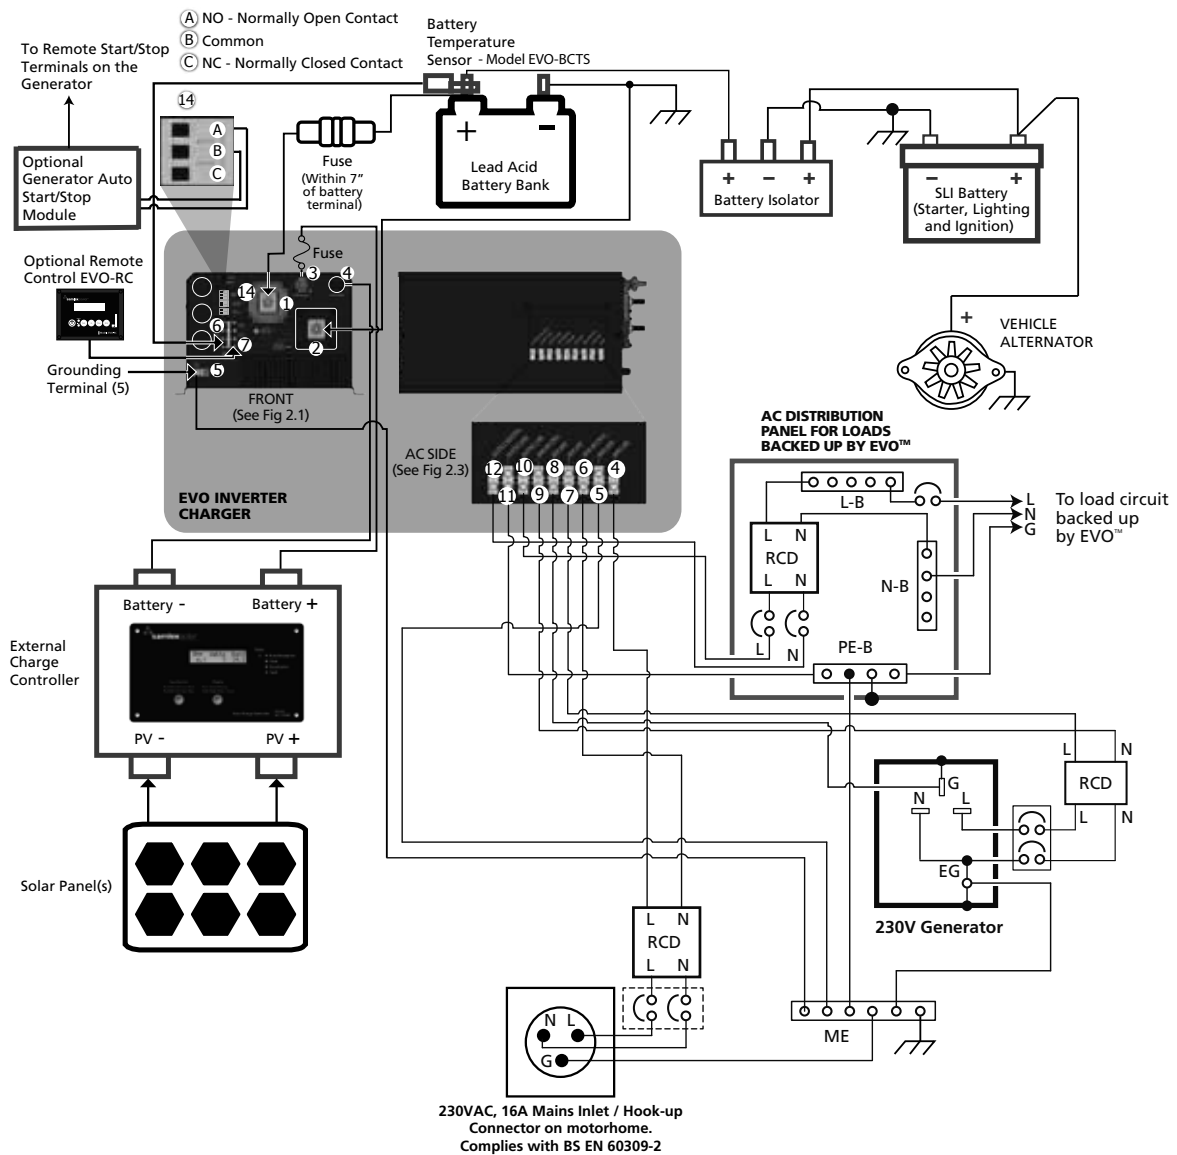

Fig 3.15 Typical Mobile Installation for Motorhome / Caravan / Vehicle
1. When this unit is installed in a motorhome / caravan please ensure that appropriate Residual Current Devices (*RCD*) are installed as recommended in the typical installation diagram at Fig 3.15.
2. Installation shown in Fig 3.15 is based on Section 721 of British Standard BS 7671 : 2008.
SLI batteries use lots of thin plates to maximize the surface area of the plates for providing very large bursts of current (*also specified as Cranking Amps*). This allows very high starting current but causes the plates to warp when the battery is cycled. Vehicle starting typically discharges 1%–3% of a healthy SLI battery's capacity. The automotive SLI battery is not designed for repeated deep discharge where up to 80% of the battery capacity is discharged and then recharged. If an SLI battery is used for this type of deep discharge application, its useful service life will be drastically reduced. Hence, this type of battery is not recommended for the storage of energy for inverter applications. A second deep cycle auxiliary battery must be installed in the motorhome / caravan / vehicle for powering the EVO™ (*A deep cycle, auxiliary battery is shown in Fig. 3.15*).
Fig. 3.15 illustrates a typical installation on motorhome / caravan / vehicle using 230VAC, 16A Service Inlet for 16A motorhome / caravan / vehicle Power Supply Cord. The installation is based on Section 721 of British Standard BS 7671 : 2008. Please check that your installation complies with the national and local Electrical Codes.
- When using generator, please ensure the following (Please see Fig 3.15):